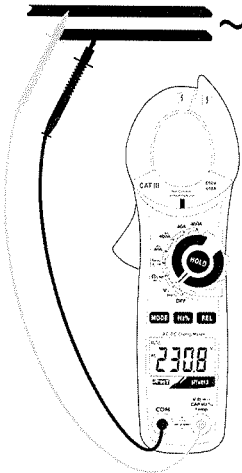

Fig. 3: Use of the clamp for AC voltage measurement
4. Insert the red cable into input terminal $V\Omega \rightarrow \rightarrow \rightarrow CAPHz\%Temp$ and the black cable into input terminal **COM** (Fig. 3).